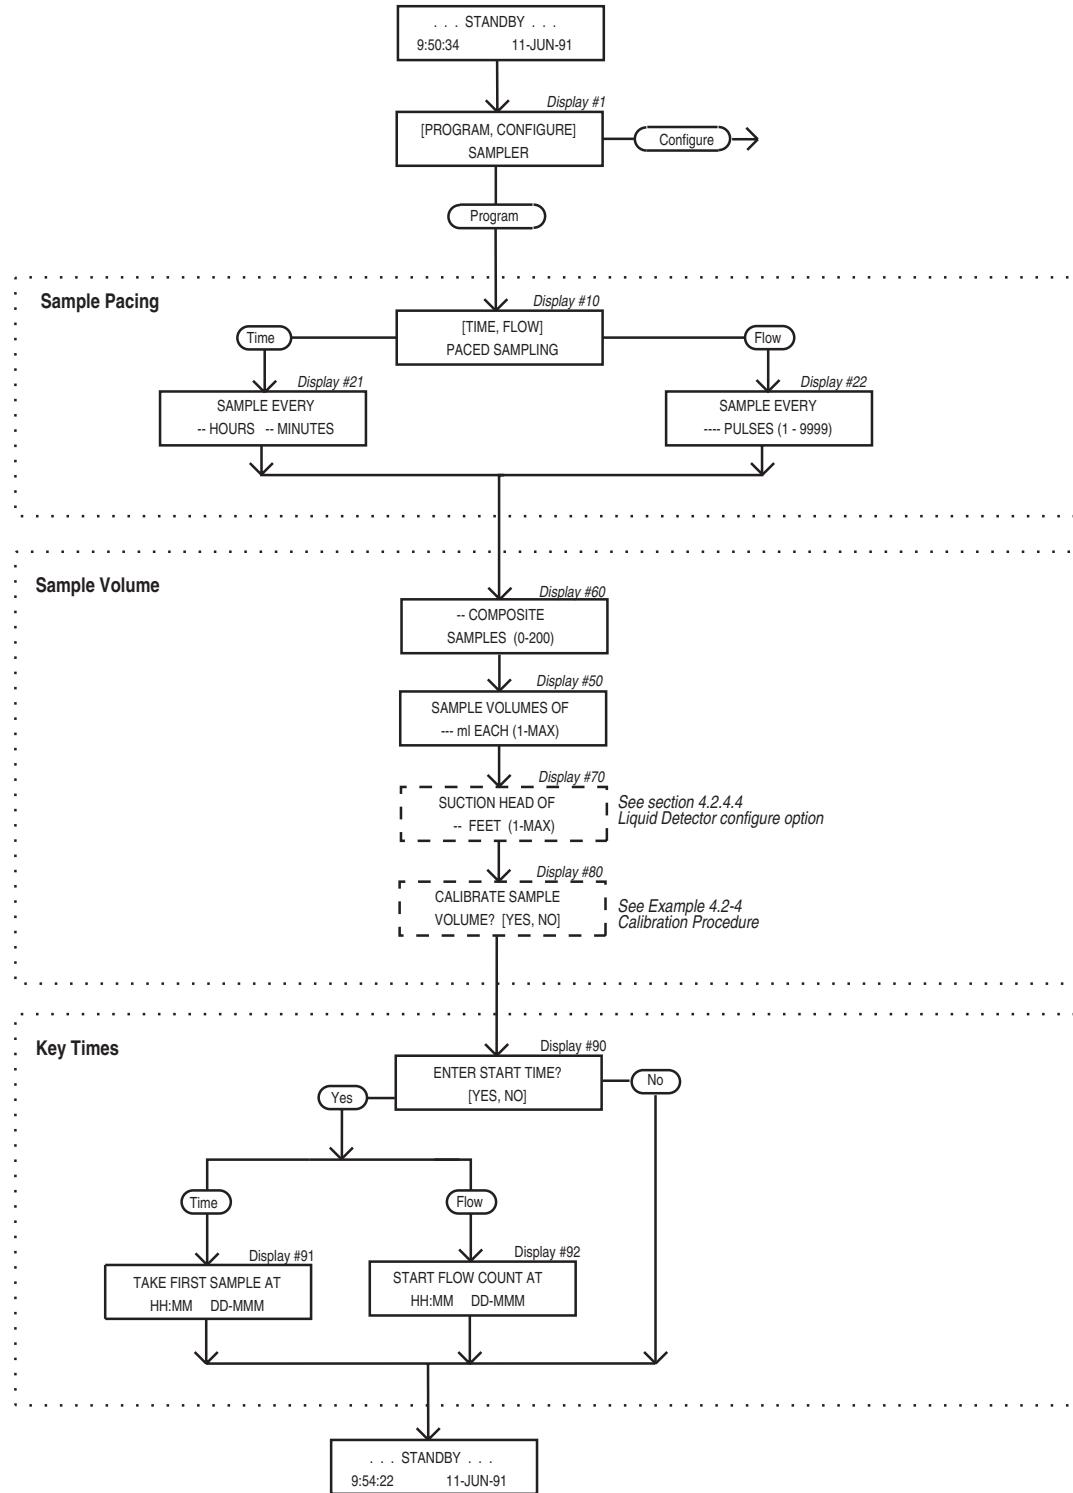

Figure 3-3 Basic Programming Mode: Program Sequence Structure
Examples for both programming modes are accompanied by flow charts. These charts diagram the program sequence structure for each mode. Figure 3-3 charts the Basic Programming Mode structure. Figure 3-5 charts the structure of the Extended Programming Mode. The charts are provided to act as a “map” to the programming process. Both charts are divided into sections – Sample Pacing, Sample Volume, and Key Times –which correspond to the steps listed in the procedure discussed below. Each chart contains the input displays used in the sequence. The input displays on each chart are labeled with their display number so they can be cross-referenced with the listing found in Appendix C.
2. Press the ENTER/PROGRAM key to access the interactive state. Select “PROGRAM.” Refer to Figure 3-3 for displays noted in steps 3 - 6.